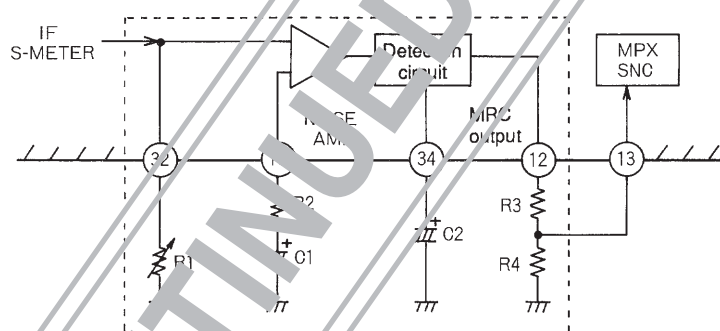
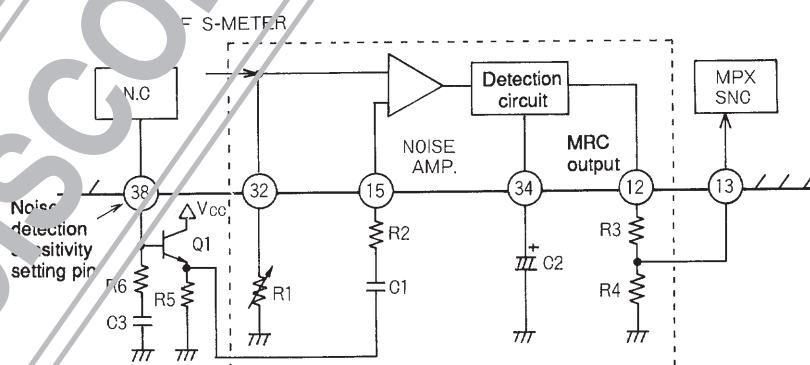
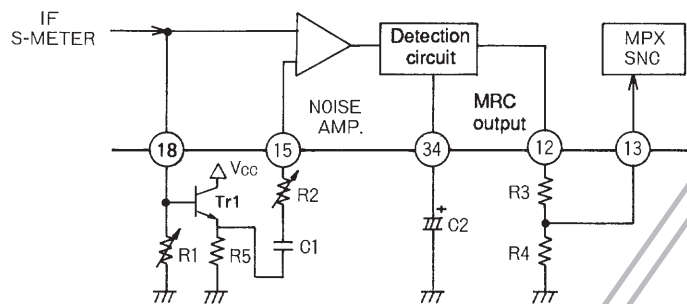
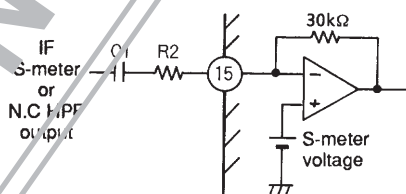

Figure 2 Multipath Circuit
Figure 3 Application Circuit Using NC HPF Noise Detection
Figure 4 Application Circuit Using IF S-Meter High-Area Detection
Figure 6
- The MRC (multipath rejection circuit) supports three techniques as shown in Figures 2, 3 and 4. Figure 2 shows the technique in which the S-meter AC component is detected directly. Figure 3 shows the technique in which the NC HPF noise is detected, and Figure 4 shows the technique in which multipath is detected using the S-meter high area components.
- In the technique of Figure 4, in which multipath is detected using the S-meter high area components, and In the technique of Figure 3, in which the N.C. H.F. noise is detected, the noise amplifier gain is determined by R_2 and the internal $30\text{ k}\Omega$ resistance as shown in Figure 6. The frequency characteristics of the circuit are determined by the capacitor C_1 .